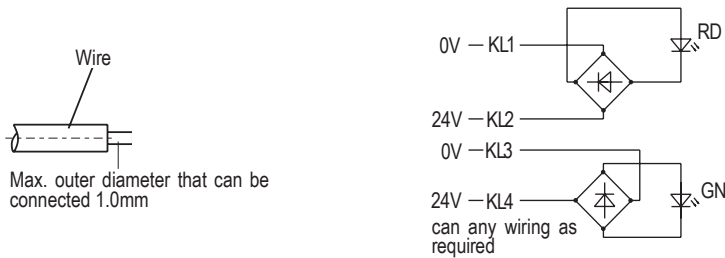

Figure 4: Pin assignment optional LED module TL4016
- ▶ For pin assignment see Figure 4.